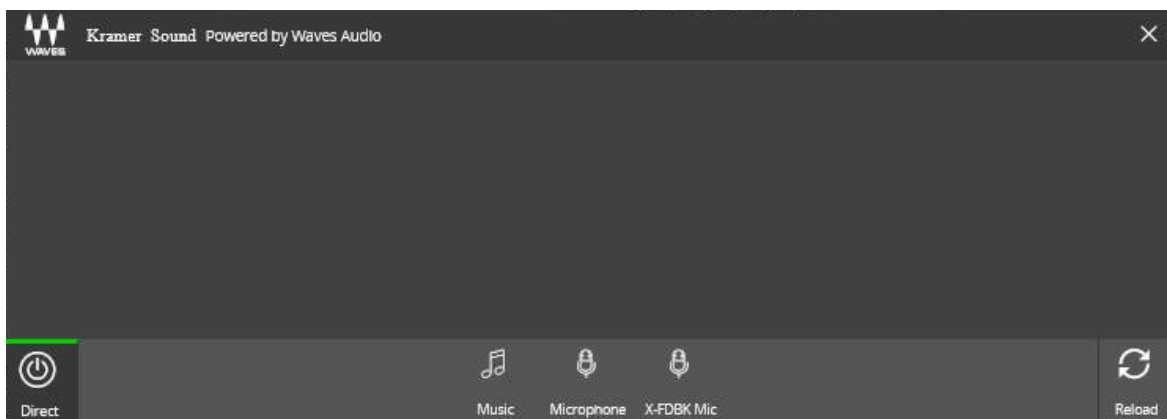

Figure 13: Kramer Sound – Presets Window
1. Click . The Kramer Sound window appears (see Figure 13).